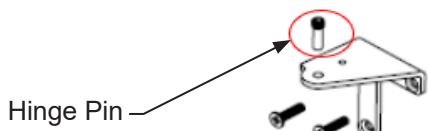

Figure 6 - Upper Right Hinge Orientation (Before Reversal)
This product is factory equipped with a power supply cord that has a three-pronged, grounded plug. It must be plugged into a mating grounding type receptacle in accordance with the National Electrical Code and applicable local codes and ordinances (see Figure 6). If the circuit does not have a grounding type receptacle, it is the responsibility and obligation of the customer to provide the proper power supply. The third ground prong should not, under any circumstances, be cut or removed.
1. Open door and remove Hinge Pin from the Upper Hinge using a 1/8" Hex Key tool (Fig. 6), making sure to steady the door. Slowly remove the door from the Upper Hinge and lift to remove off the base Lower Hinge.